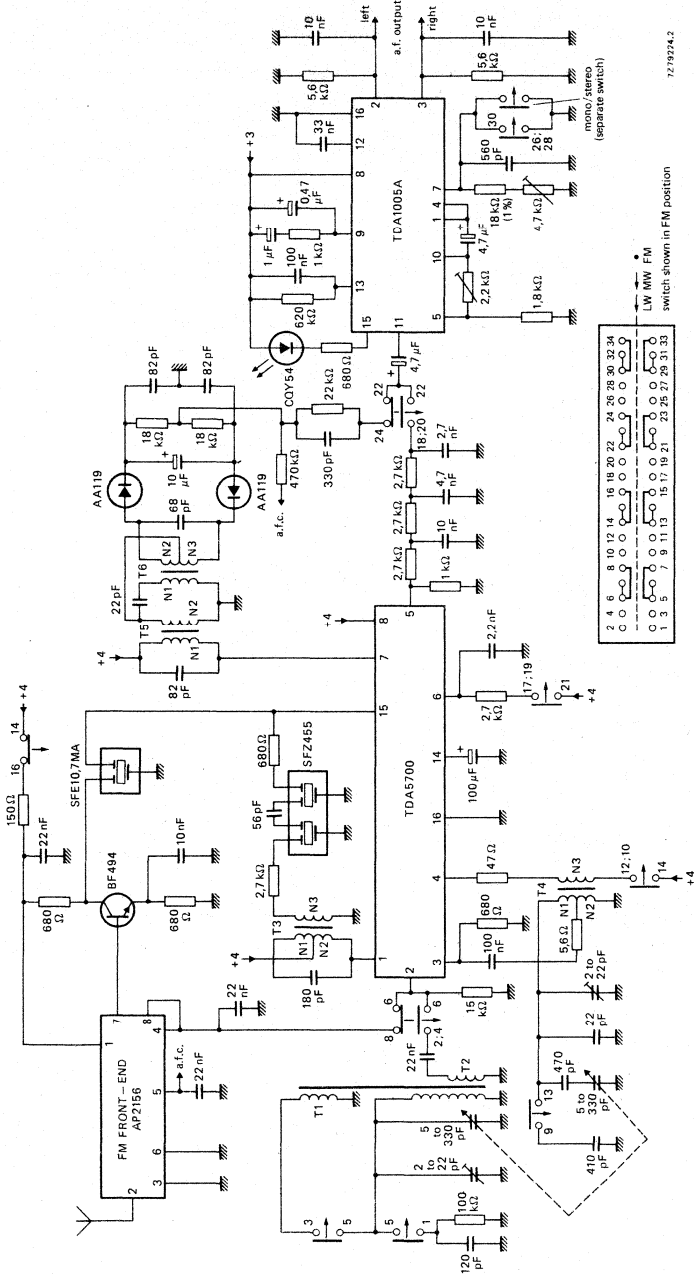

Fig. 5 Circuit diagram of an a.m./f.m. stereo receiver using TDA5700. For audio output stages see Fig. 7.
**F.M. performance of the complete f.m. circuit** (measured in Figs 5, 6 and 7 at  $V_S = 9\text{ V}$ )
Fig. 8 Typical S/N curves for a.m. reception (see Fig. 5); a.f. voltage at a.m. detector output (pin 5) with slider of volume control at the lower end (ground) as a function of r.f. input voltage at pin 2.
Fig. 9 Typical S/N curves for f.m. reception (see Fig. 5); a.f. voltage at f.m. detector output with slider of volume control at the lower end (ground) as a function of aerial e.m.f. from a source with  $R_S = 50 \Omega$  to the  $75 \Omega$  input of the f.m. front-end.